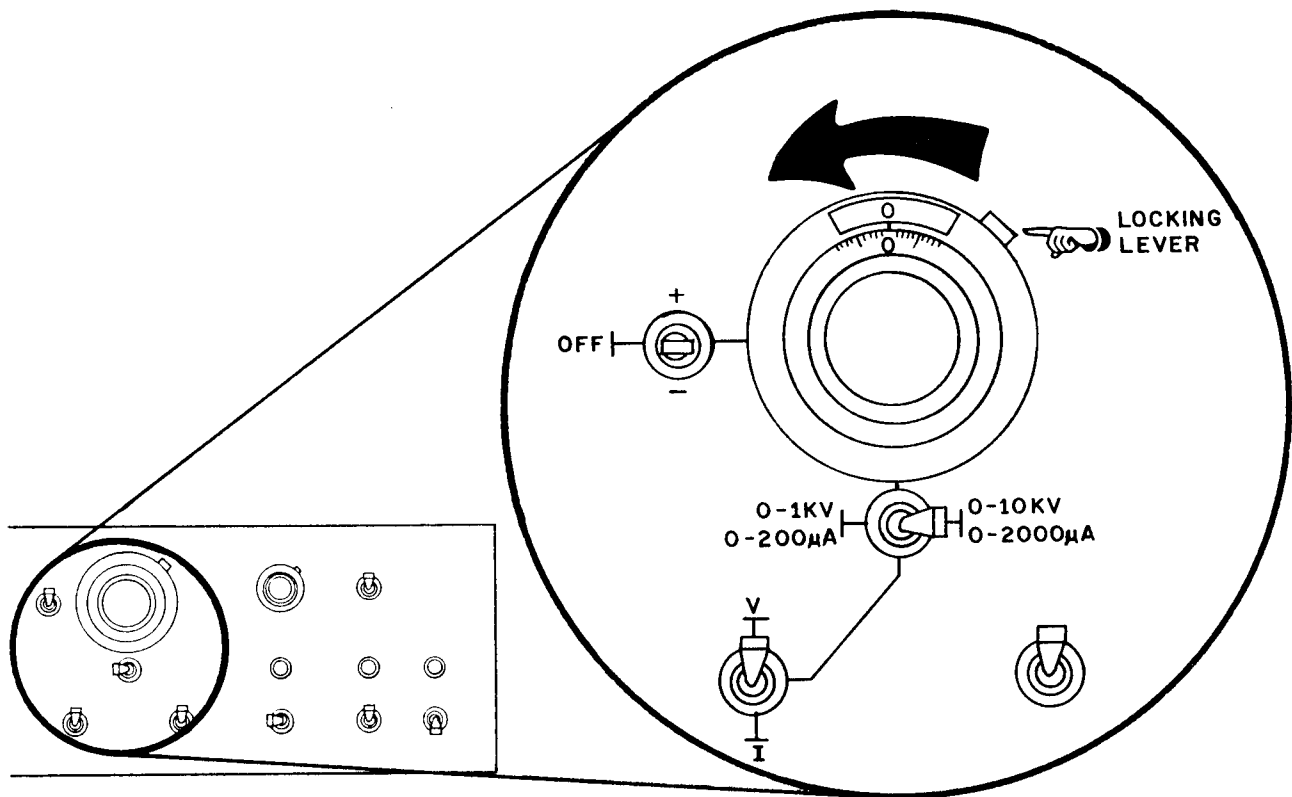

Figure 3. Set Controls in COMMAND/OFFSET Section
- (1) Set the selector switch to the "V" position (see Figure 3).
- (2) Set the range selector switch to the "0-10 KV" position (refer to Figure 3).
- (3) Adjust the potentiometer dial to zero by turning the dial fully counterclockwise (CCW). You may need to unlock the dial by pushing up on the lever at the base of the dial (refer to Figure 3).
- (4) Flip the polarity switch to the OFF position (refer to Figure 3).